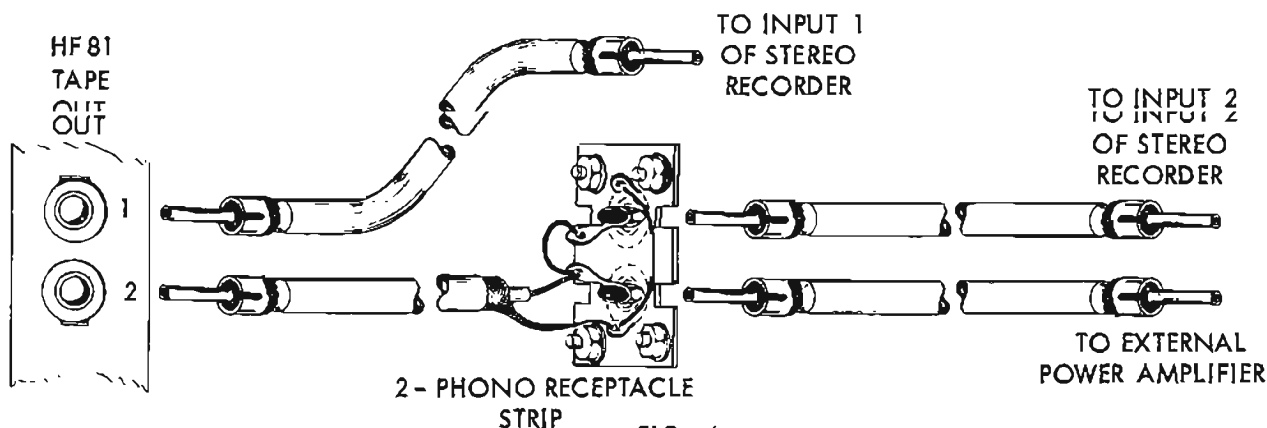

FIG. 4
d) TAPE OUTPUT 1, TAPE OUTPUT 2: When no external amplifier is used in the system, both these outputs are available for feeding out to a stereo recorder. When an external power amplifier is used in the system, TAPE OUTPUT 2 is used to feed out to the external power amplifier. If it is desired to do stereo recording under the latter conditions, construct a device such as shown in Fig. 4. Use low capacity shielded cable for connections.